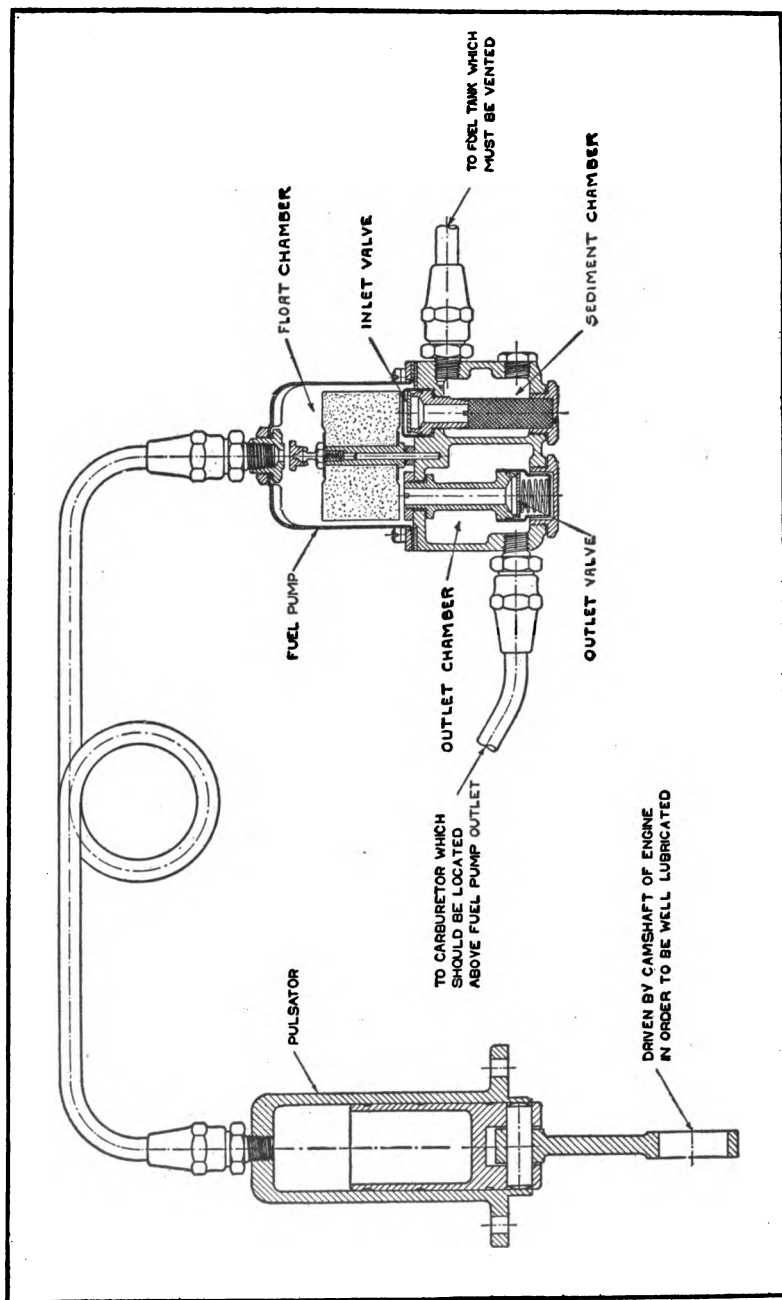

Fig. 146. Sectional View of the Stromberg Fuel Pump System
*Stromberg Fuel Pump.* The Stromberg Fuel Pump operates on the pulsating principle. It consists of a pulsator and pump connected by a tube. The pulsator is a part of the engine and consists of a cylinder and reciprocating piston. There are no ports or valves and this pulsator is driven from the camshaft and is lubricated by the emulsion from the crankcase. The fuel pump is placed in the main line between the tank and the carburetor. This pump consists of a float chamber, an inlet chamber which is also a sediment trap, and an outlet chamber, which is also an air-cushion chamber. The inlet chamber is connected to the float chamber through a gravity valve, and, in turn, the float chamber is connected to the outlet chamber by a similar valve, which is closed by a spring. This construction is shown in Fig. 146.